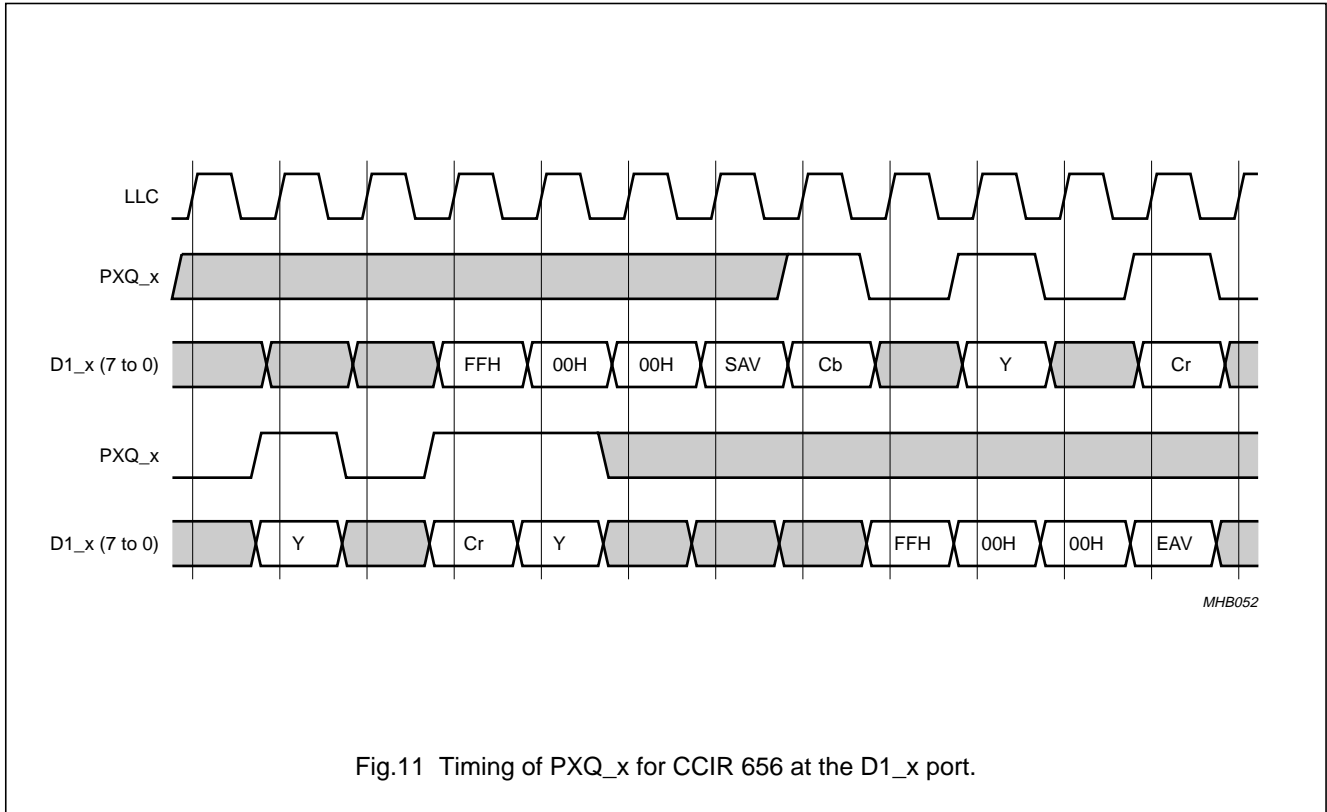

Fig.11 Timing of PXQ_x for CCIR 656 at the D1_x port.
There are two timing reference codes; one at the beginning of each video data block [Start of Active Video (SAV)] and one at the end of each video data block [End of Active Video (EAV)] as shown in Fig.11.
- Direct mode: FLD signal detected from incoming H/V signals, for timing behaviour see Fig.11.